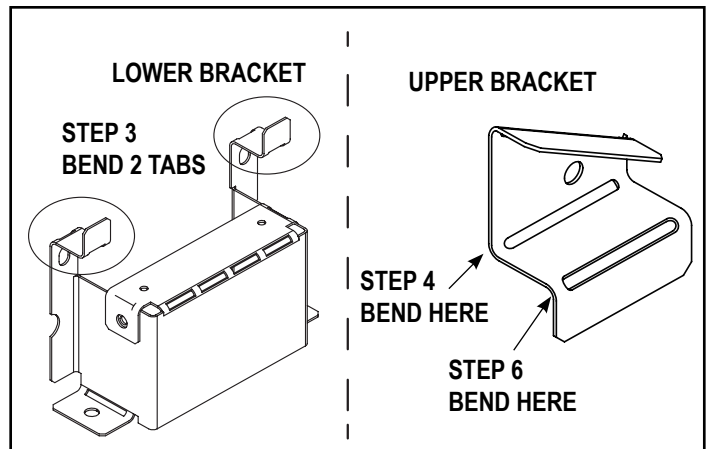

Figure 10.5 Refractory Bracket Bends
3. Locate the two bottom refractory panel brackets located on the left bottom side of the firebox. Bend tabs on lower bracket as shown in Figure 10.5.
4. Bend upper bracket on left side in one spot as highlighted in Figure 10.5.
6. Bend the outer portion of the upper refractory bracket down to retain refractory panel. See Figure 10.5 and Figure 10.7.